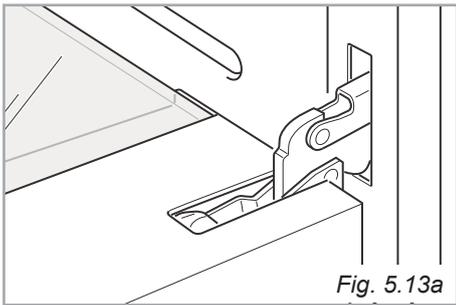

Fig. 5.13a
- Open the door to the full extent (fig. 5.13a).